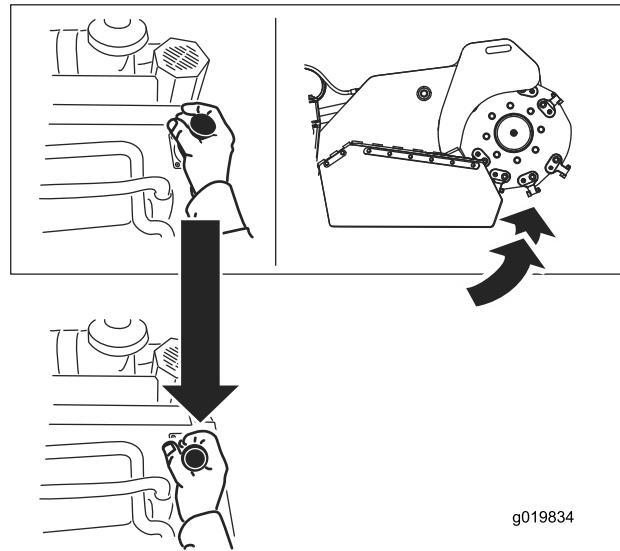

Figure 14
- To raise the grinder, pull the lever rearward (Figure 14).